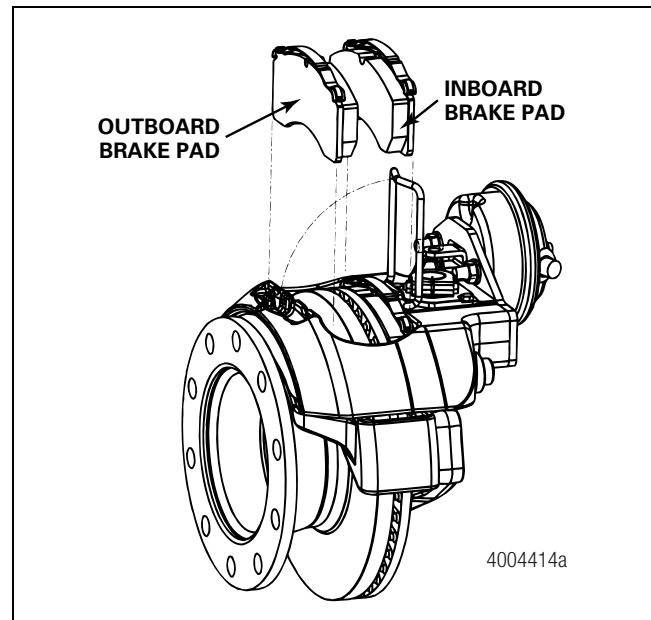

Figure 5
4. Lift the INBOARD brake pad out of the caliper assembly. Mark the brake pad INBOARD. Figure 5.
5. Slide the caliper OUTWARD and remove the OUTBOARD brake pad. Mark the brake pad OUTBOARD. Figure 5.